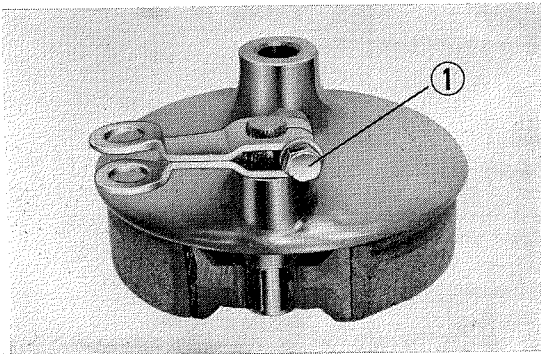

Fig. 56 6mm. bolt
4. Unscrew 6 mm bolt to remove the brake arm, unhook the two brake shoe springs and then disassemble the brake shoes from the brake panel. (Fig. 56)